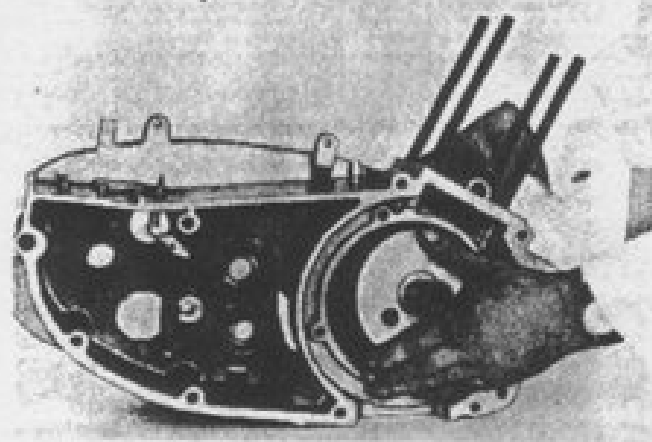

Fig. 33. Removal of crankshaft, HX-10-3 model.
2. Remove crankshafts from the crankcase halves by drifting them out of bearings with a mallet (Fig. 33).